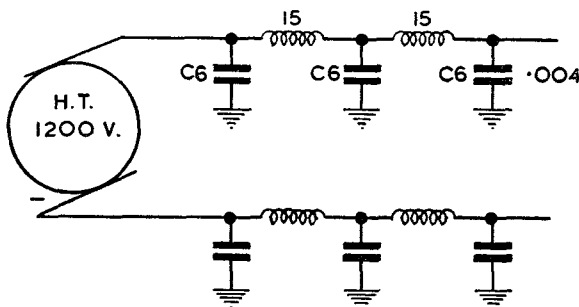

FIG. 84C—H.T.—P.U. SMOOTHING
- H.T. short to earth caused by :—C.6 ($\cdot 004 \mu\text{F.}$) condensers (fig. 84C) breaking down, with cables disconnected test between power unit H.T.+ plug and frame. If the condensers are serviceable check the power cables. These should be tested for "shorts" due to dampness or dirt, and between core and screens for insulation.